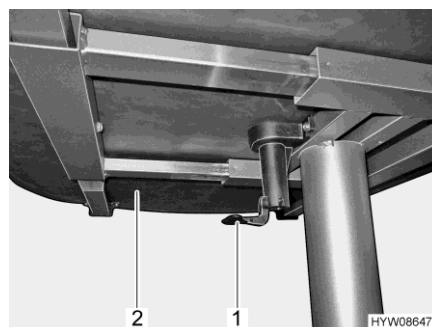

Fig. 63 Lever for moving the table top
- Pull or press down the lever (Fig. 63,1).
- Move the table top (Fig. 63,2) to the desired position.